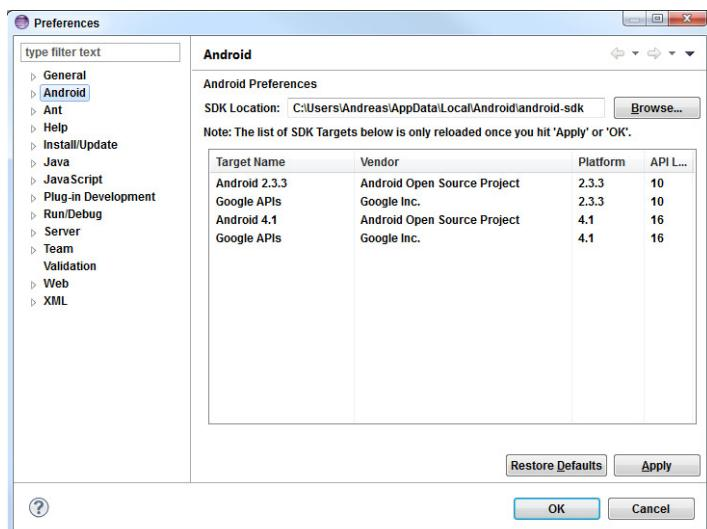

FIGURE 4-10: Set the Android SDK path inside Eclipse.
5. From the Eclipse menu, select Window \Rightarrow Preferences \Rightarrow Android and make sure the SDK Location where you installed Android SDK Tools is filled in and correct. You should see a list of all the installed Android platforms in the list below it, as shown in Figure 4-10.